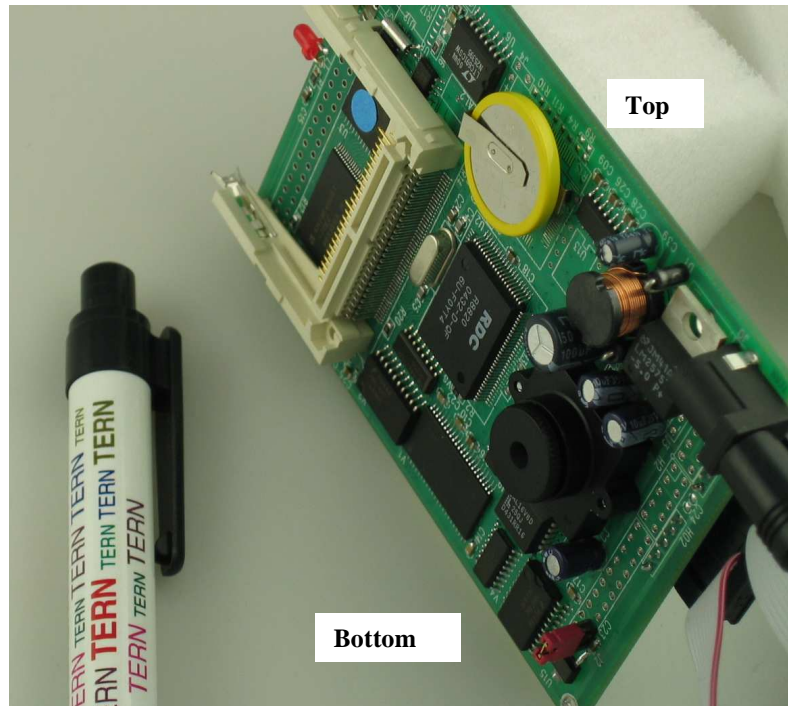

Figure 2.5: Upright picture position
6. To take a picture upright, position the *EyeC*TM as shown in Figure 2.5.